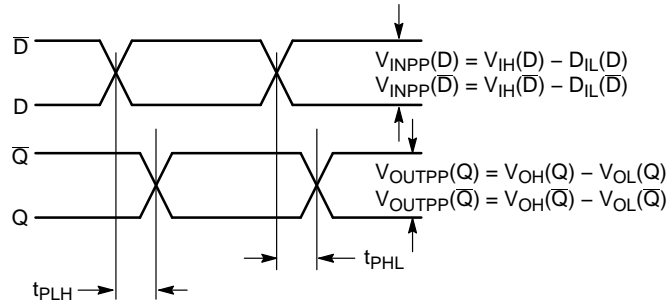

Figure 13. AC Reference Measurement
24. See Figure 13 $t_{skew} = |t_{PLH} - t_{PHL}|$ for a nominal 50% differential clock input waveform.